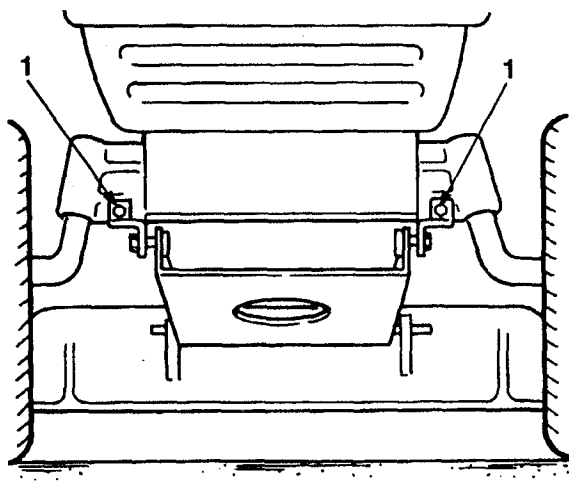

Figure 40
7. Remove the bolts and lock nuts and pull the two mower pivot mount brackets down from the front axle (Fig. 40).